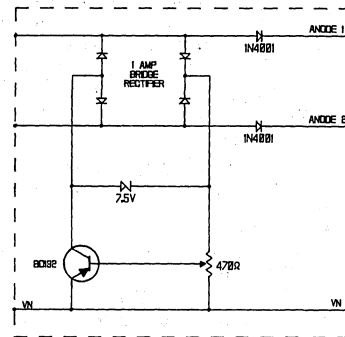

Fig.12 MANUAL BRIGHTNESS CONTROL
3. Manual brightness control Fig.12